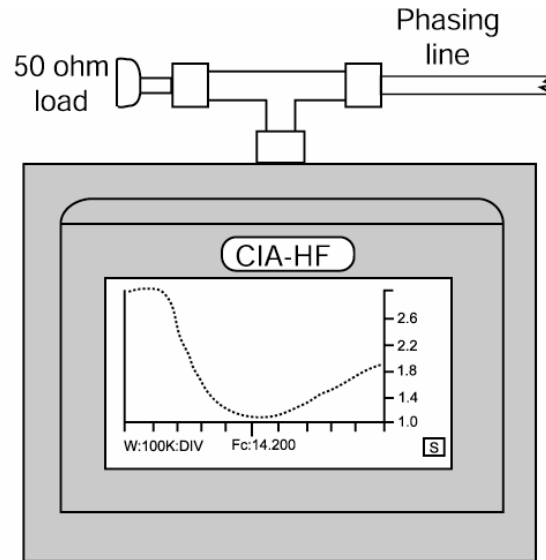

FIGURE 2. T Connector
4. Attach the “PL-259” connector to a “T” connector already attached to the antenna connector. Attach a 50-ohm load to the other end of the “T” connector (Figure 2).